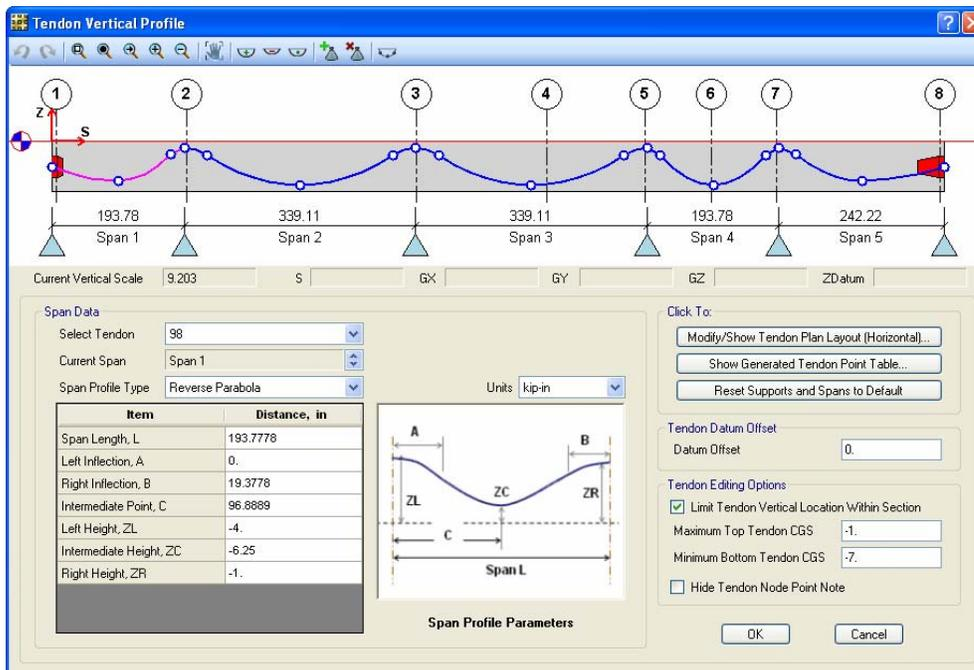

Figure 82 Tendon Vertical Profile form
- Left click in any of the edit boxes associated with a vertical span, and the Tendon Vertical Profile form appears, similar to that shown in Figure 82. This form displays the vertical profile of the tendon in elevation, and allows the tendon profile to be altered either graphically, by grabbing a control point on the tendon and moving it to a new position, or numerically, by selecting the desired span and entering new values into the table. Click the **OK** button, to accept the default profiles.